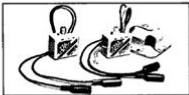
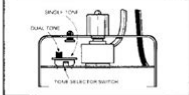

Figure 1 The Tracers Models 77A & 77M
Figure 2 Tone Selector Switch
2.01 The Tracer, Models 77A & 77M (See Figure 1), are housed in a yellow high-impact plastic case which measures 1 1/2" x 2" x 2 1/2", weighs 4 ounces and is powered by (1) 9V NEDA Type 1604 battery. Red and black test leads are provided on both models. The 77M, in addition to the 2 leads, has a standard 4 conductor modular cord and plug. A 3 position toggle switch controls the mode of operation plus a (LED) Light Emitting Diode is provided for line polarity testing. A tone selector switch (See Figure 2), located inside the test set is provided for choosing either a single solid tone or dual alternating tone. The Tracers are compatible with RING, STOP & CROSSBAR, and the output tone is isolated from DC voltages.